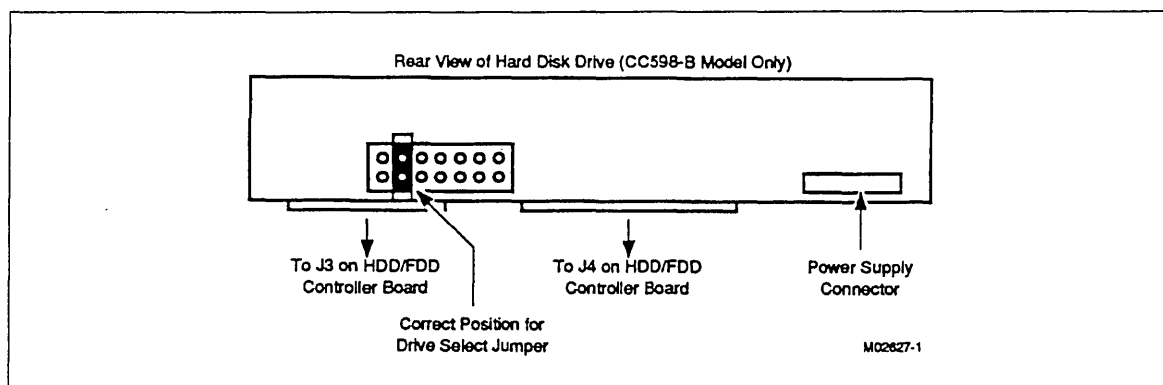

Figure 7-10. Jumper Placement on Hard Disk Drive (CC598-B)
- ___ 8. Install the new disk drive, reinstall the floppy disk drive, replace the right-hand drive chassis, reconnect the ribbon cables to the floppy disk drive and hard disk drive, and reinstall all cabinet hardware by reversing the preceding steps. Ensure that the jumper on back of the drive is in the location shown in figure 7-10.